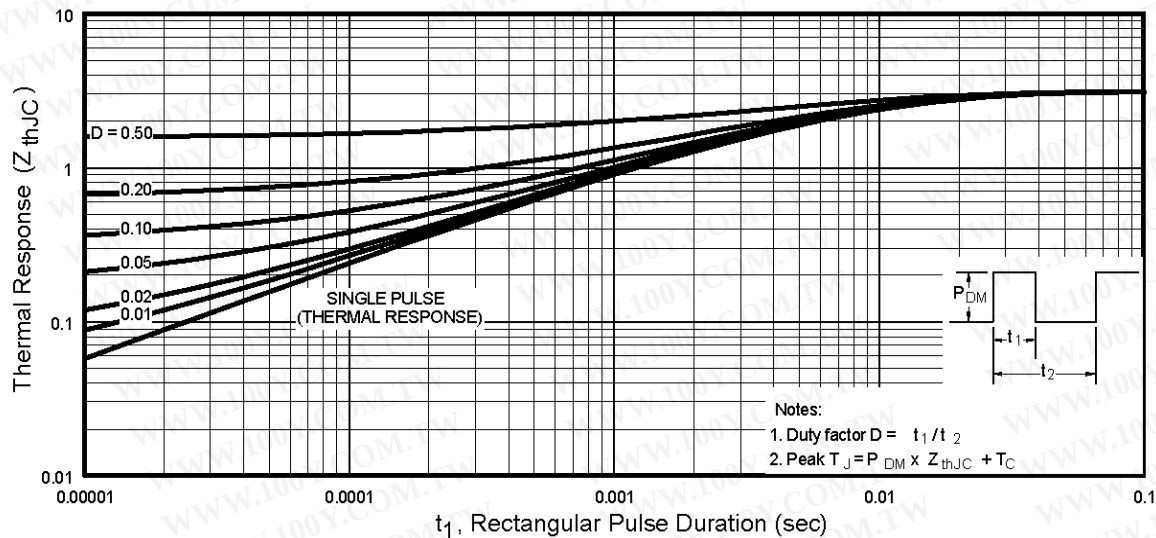

Fig 11. Maximum Effective Transient Thermal Impedance, Junction-to-Case
① Repetitive rating; pulse width limited by max. junction temperature. (See fig. 11)
② $V_{DD} = 25V$, starting $T_J = 25^\circ\text{C}$, $L = 4.7\text{mH}$